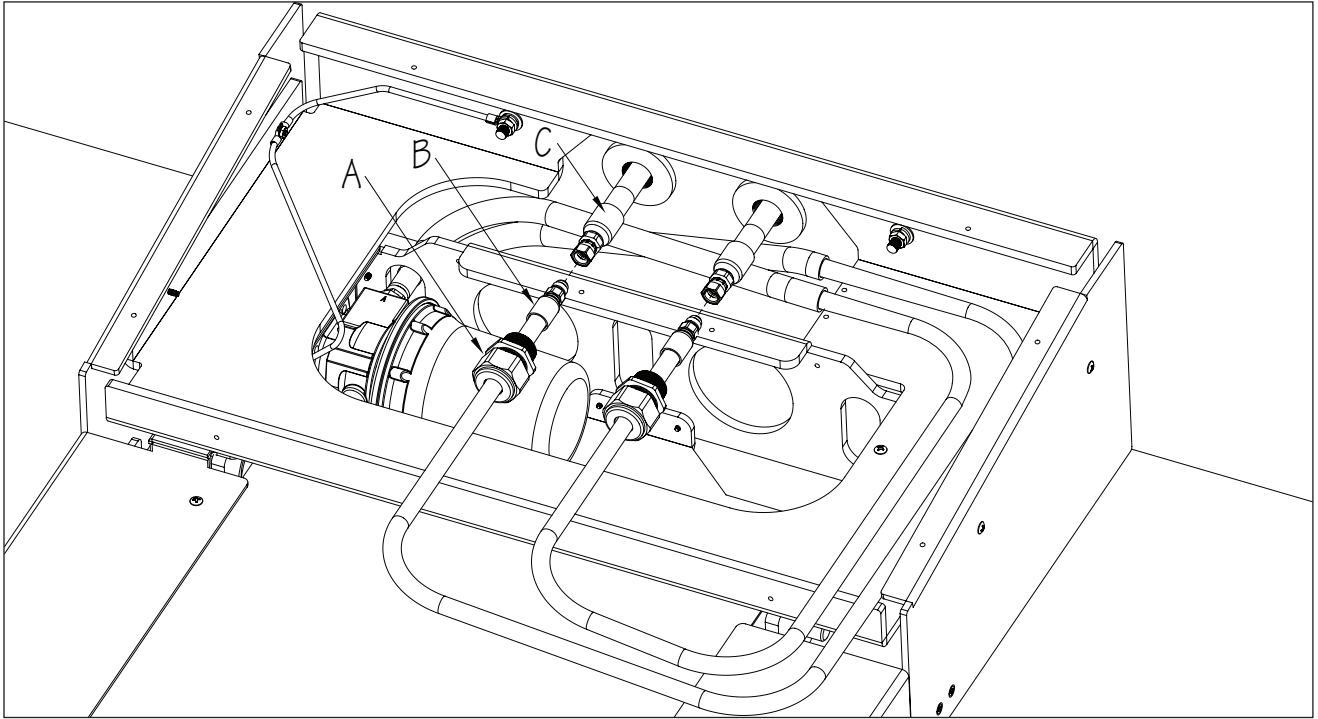

Fig. 15
3. Apply Teflon tape to the threads of the Liquid Tight Fittings (A) and then install the fittings onto the Sub Hoses (B).
There is red tape wrapped around one of the Sub Hoses (B) and one of the Run Hoses (C) representing low-pressure. Attach the Sub Hose with the red tape to the Run Hose with the red tape. Attach the other Sub Hose (high-pressure) to the remaining Run Hose. Feed the hoses into the conduit (Fig. 15).